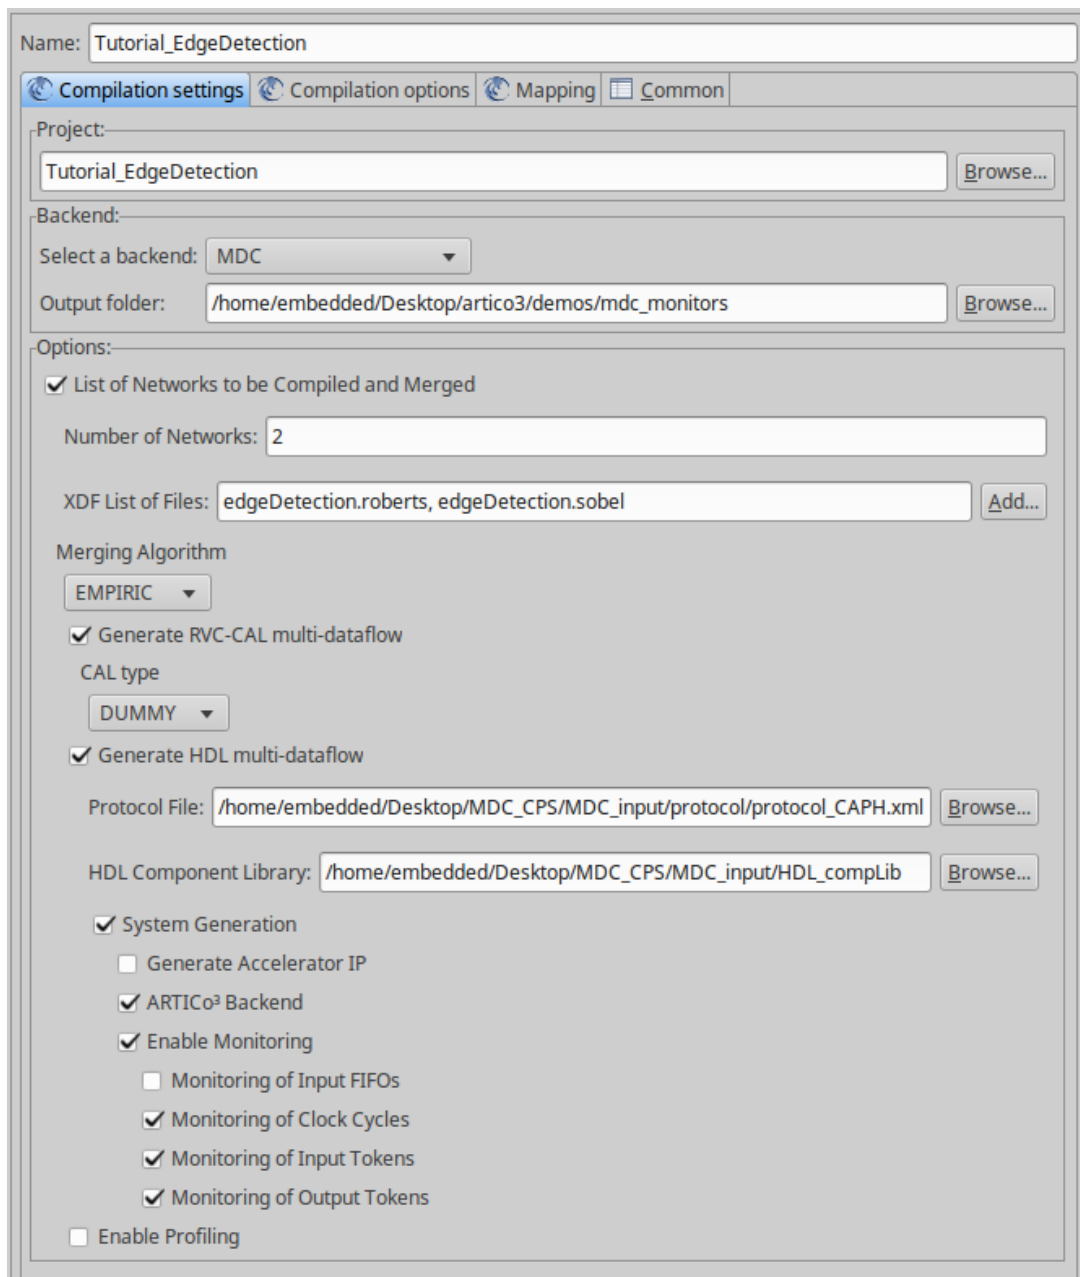

Figure 1: Compilation settings as in the MDC GUI
4. Fill in the following compilation settings, as shown in Figure 1.